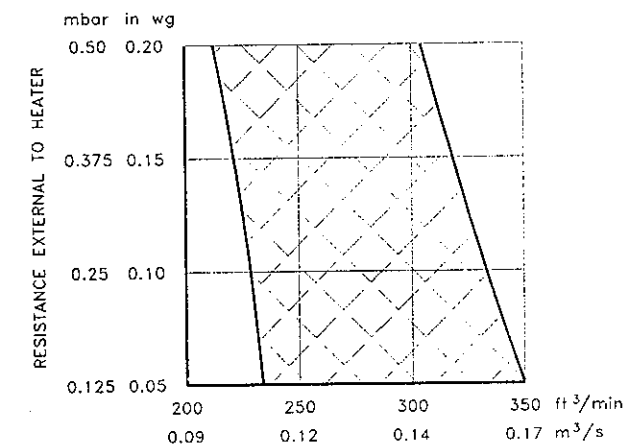

Fig. 4 Fan performance graph
- 7.14.4 On non-Modairflow units, fan speed is altered by changing the position of the fan speed selector plug (Fig.1, Item 18) on the control panel, (see Fig.4 for fan performance envelope). Maximum speed is at Setting 5.